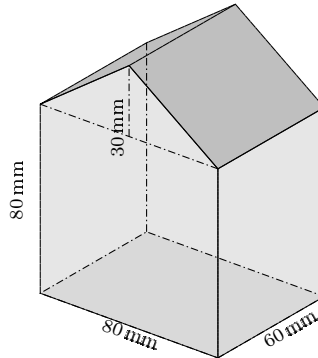

Figure 3: The part to be printed
- a) What is the minimum number n of triangular facets required to describe **exactly** the shape of the house of Fig. 3 in an .stl file?